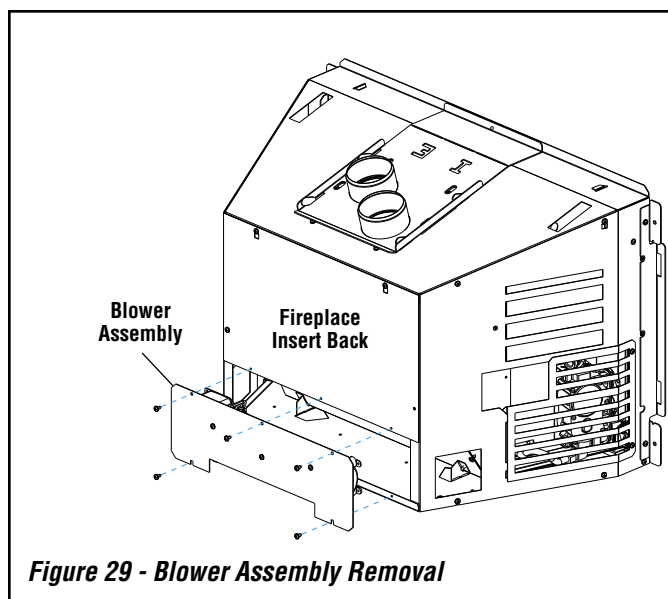

Figure 29 - Blower Assembly Removal
2. Remove five phillips screws holding blower assembly in place and carefully move assembly out of the way, exposing appliance wiring (see **Figure 29**).